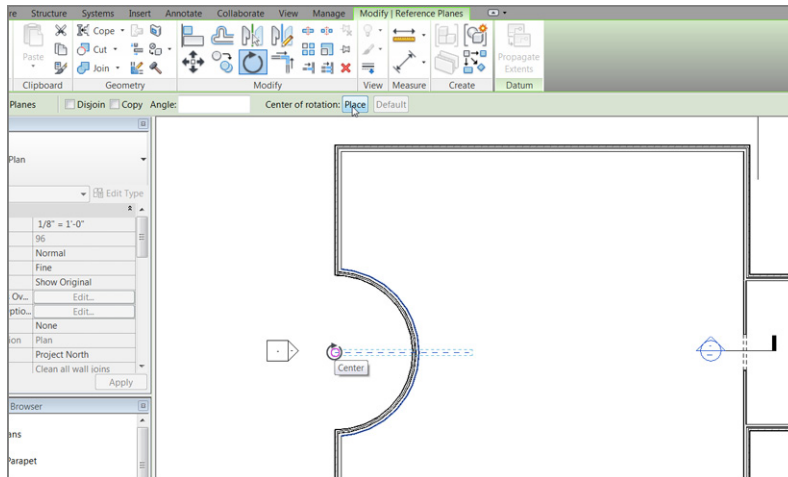

FIGURE 4.9: Relocate the origin point for the rotation.
3. After you start the Rotate command, look back at the reference plane. Notice the blue dot in the middle of your line. Revit always calculates the center of an object (or group of objects) for the rotate point (see Figure 4.9).
4. On the Options bar, click the Place button, and select the end point of the reference plane. A temporary rotate icon appears, indicating that you can now move the blue dot (see Figure 4.9).